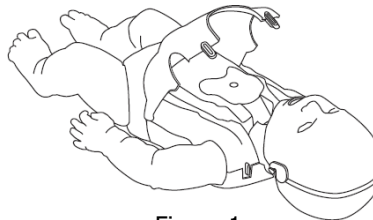

Figure 1
1. Unlatch the front torso skin of the Prestan Professional Infant Manikin by unhooking skin from the 'tabs' located at the top of the shoulders and peeling down the skin to expose the chest plate (Figure 1).